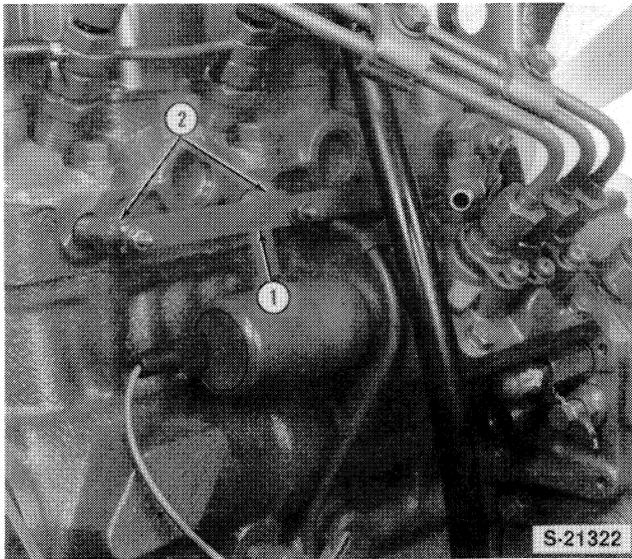

FIGURE 1-28
6. Disconnect the glow plug connector strap, 1, and remove the glow plugs, Figure 1-28.